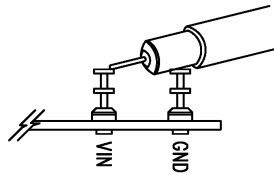

Figure 2. Scope Probe Placement for Measuring Input or Output Ripple
**Note:** When measuring the input or output voltage ripple, care must be taken to avoid a long ground lead on the oscilloscope probe. Measure the input or output voltage ripple by touching the probe tip directly across the Vin or Vout and GND terminals. See Figure 2 for proper scope probe technique.